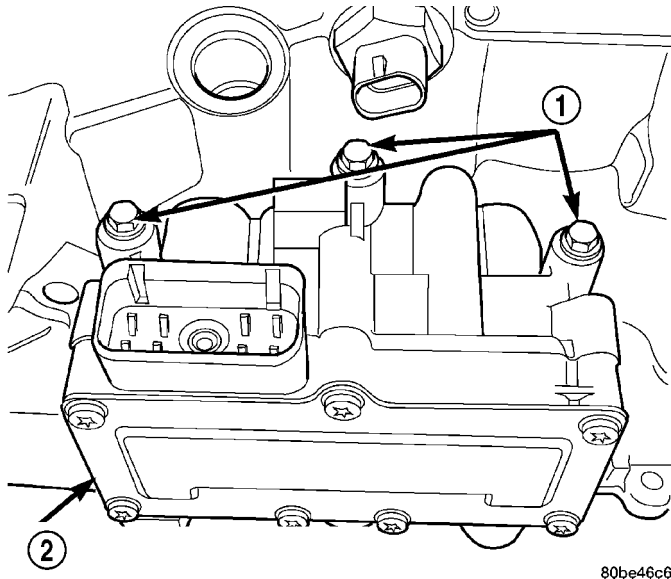

Fig. 158 Attaching Bolts
(69) Install and tighten solenoid/pressure switch assembly-to-transaxle case bolts to 12 N·m (110 in. lbs.) (Fig. 158).